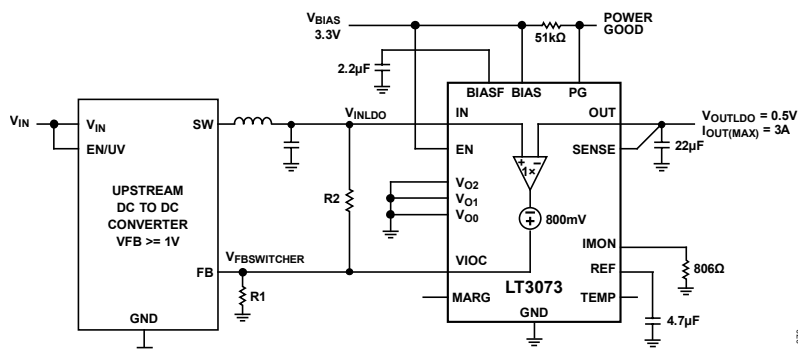

Figure 72. VIOC Basic Operation
The VIOC pin controls an upstream switching converter to maintain a constant voltage across the LT3073, regardless of the LDO's output voltage. This maximizes efficiency while maintaining PSRR performance. The VIOC pin is the output of a fast amplifier and equals to $(V_{IN} - V_{OUT}) + 800mV$. As shown in Figure 72, the VIOC feature is simple to use. In the case of $V_{FB} \geq 1V$, connect the VIOC pin to the upstream switching converter's feedback (FB) pin. This will regulate the LT3073's input-to-output differential to the switching converter's feedback voltage minus 800mV. When paralleling multiple LT3073s, connect the VIOC pin of one of the LT3073 to the upstream switching converter's feedback pin and float the remaining VIOC pin(s). When LT3073 is turned off, V_{INLDO} is clamped to a voltage set by $V_{FBSWITCHER} \times (R1 + R2)/R1$.